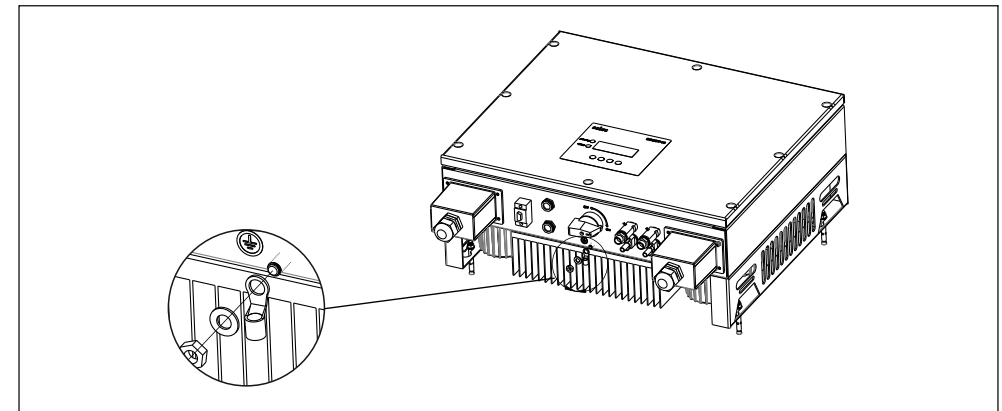

Fig 16
Grid's earth terminal must be connected to inverter's protective earth (PE) terminal as shown in Fig 16.